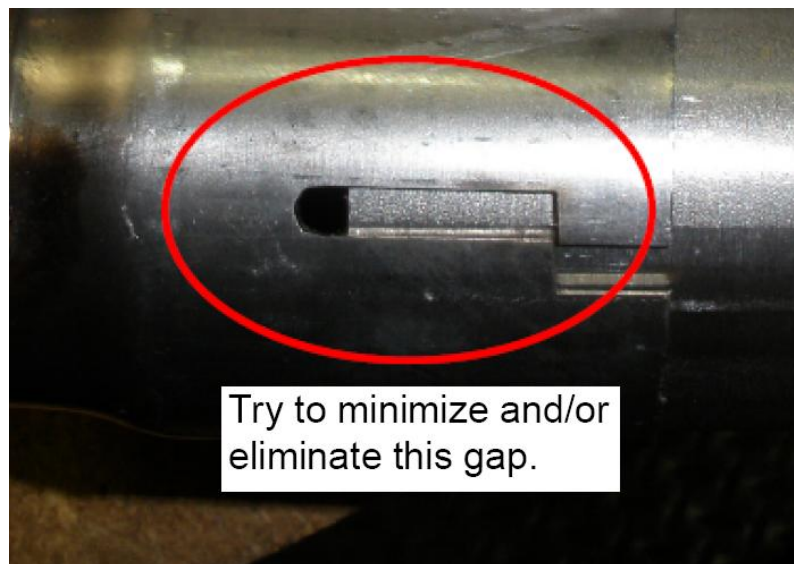
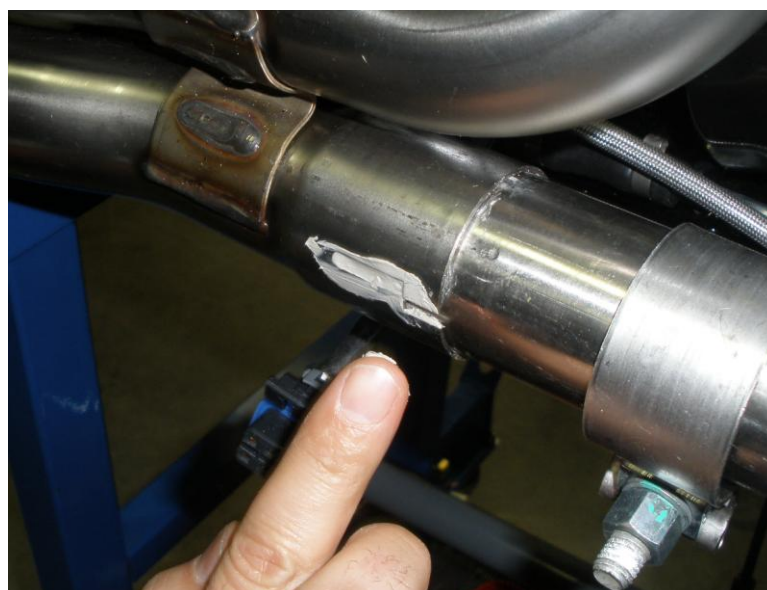

Fig.1: CV/Headpipe Assembly
Fig. 5: Application of Headpipe/CV sealant
- 5.) Carefully adjust the Exhaust System Assembly to minimize the gap between Front Headpipe and CV Tube. (Fig. 1)
9.) Check for a gap between CV Tube slot Headpipe (figure 1). If a gap exists between the Headpipe and CV Tube then apply “Catalyst Friendly” Exhaust Sealant to both inboard and outboard slots as shown in figure 5. Wipe excess sealant from slots. **Sealant is not required if there is no gap.**